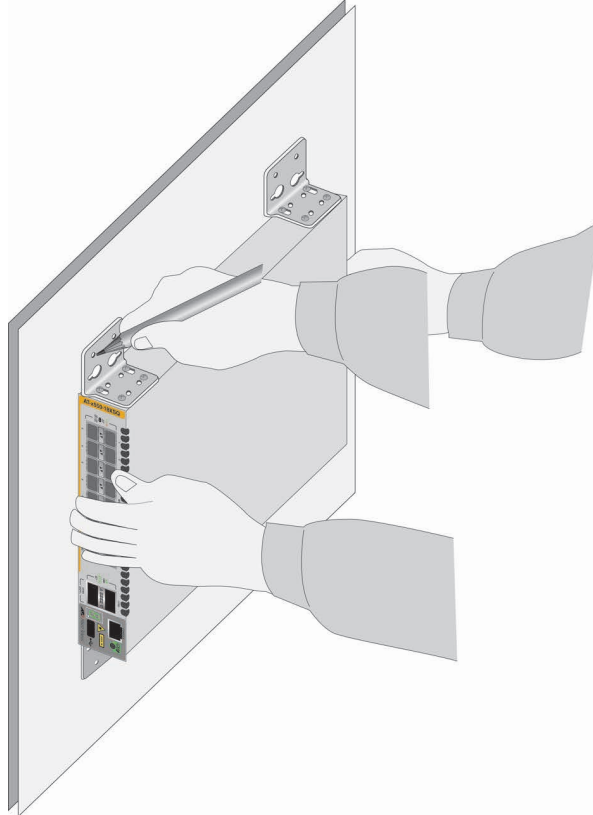

Figure 46. Marking the Locations of the Bracket Holes on a Concrete Wall
4. Have another people hold the switch on the concrete wall at the selected location for the device while you use a pencil or pen to mark the wall with the locations of the four screw holes in the four brackets (one screw per bracket). Refer to Figure 46 on page 86.